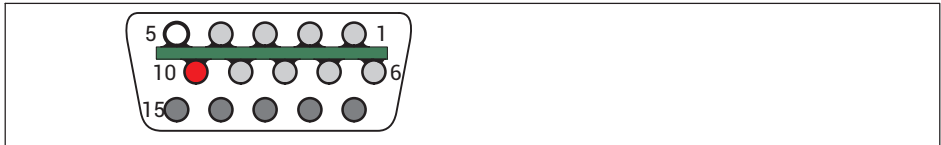

Fig. 2.3 Mounting the TEDS module in the plug
- ▶ Solder the module between the first and second rows of the plug to pins 1 to 5 (Fig. 2.3 and Fig. 2.4).
- ▶ Then turn the plug around and solder connections 6 to 10 on the other side (Fig. 2.3 and Fig. 2.5).
- ▶ Turn the plug around and solder connection 1 (white) to pin 5 (Fig. 2.3). This connects the measurement signals (output signals of the bridge).